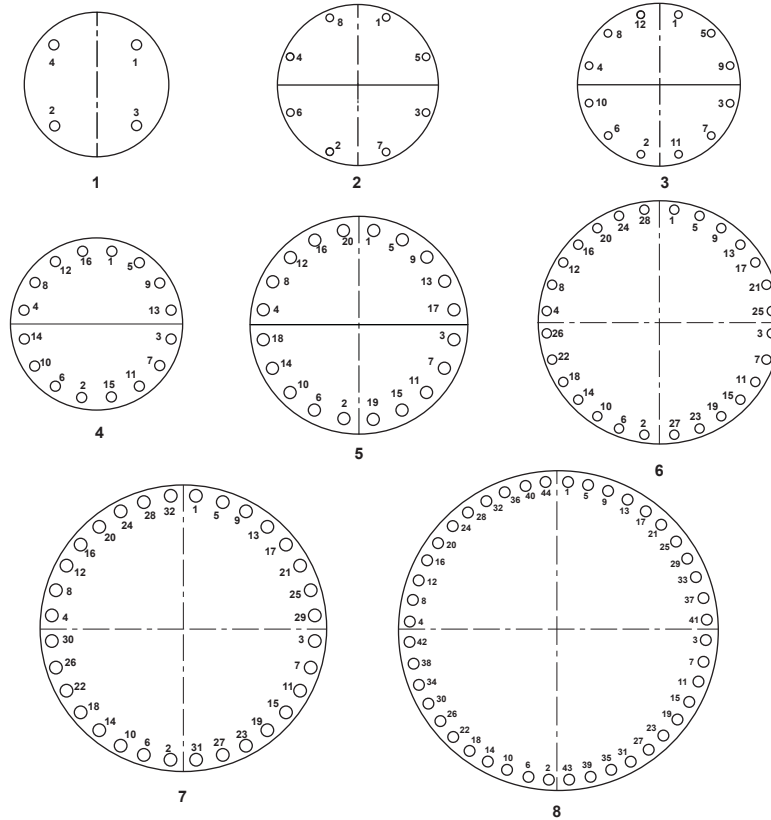

Figure 5. Flange Pattern Tightening Sequence
8. Torque the bolts in sequence as shown in the Torquing Instruction section. Refer to Figure 5 and Tables 4 and 5.
2. See Figure 5.